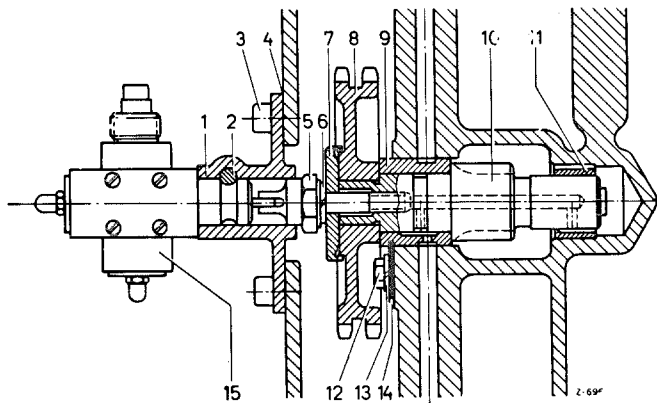

Fig. 01-4/52
On Model 190 SL the idling gear shaft (10), via the driving screw (5), also drives the angle drive for the revolution counter (15). The idling gear (8) has a shoulder on the end face which carries the centering disk (7) for the driving screw (5) (Fig. 01-4/52). On no account should an idling gear without shoulder be installed in Model 190 SL.
In place of the cover plate, the flange bushing (1) with the angle drive for the revolution counter (15) is screwed to the crankcase (Fig. 01-4/52). See also Fig. 01-4/53, Nos. (5) and (4).